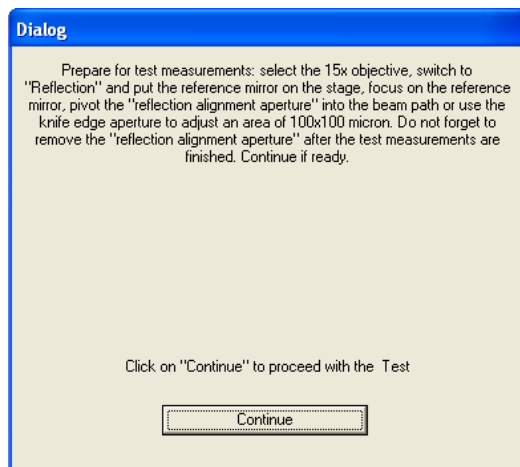

Figure 37: OPUS Reminder Message
- Thereupon, the message window shown in figure 37 appears reminding you to check whether the microscope is prepared as described in the above section *Preparing the Microscope in Reflectance for the PQ Test*.